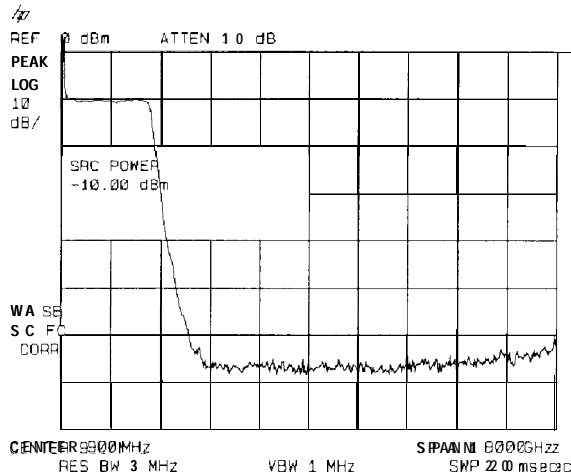

Figure 4-5. Tracking-Generator Output Power Activated
3. Activate the tracking generator menu by pressing **AUX CTRL** and Track Gen . To activate the tracking-generator power level, press SRC PWR ON OFF until ON is underlined (see Figure 4-5).